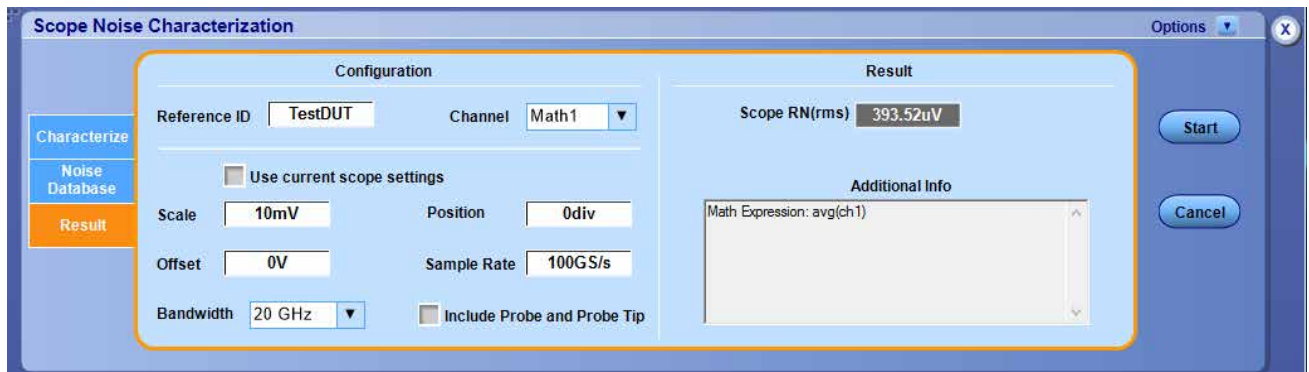

Figure 19: Showing Math expression in "Additional Info" box
9. The warning icon  may appear beside ScopeRN value and the error/warning message is described in the Additional Info box. The Math function will also appear if a math channel is selected for the noise query, as shown in Figure 19 on page 25.